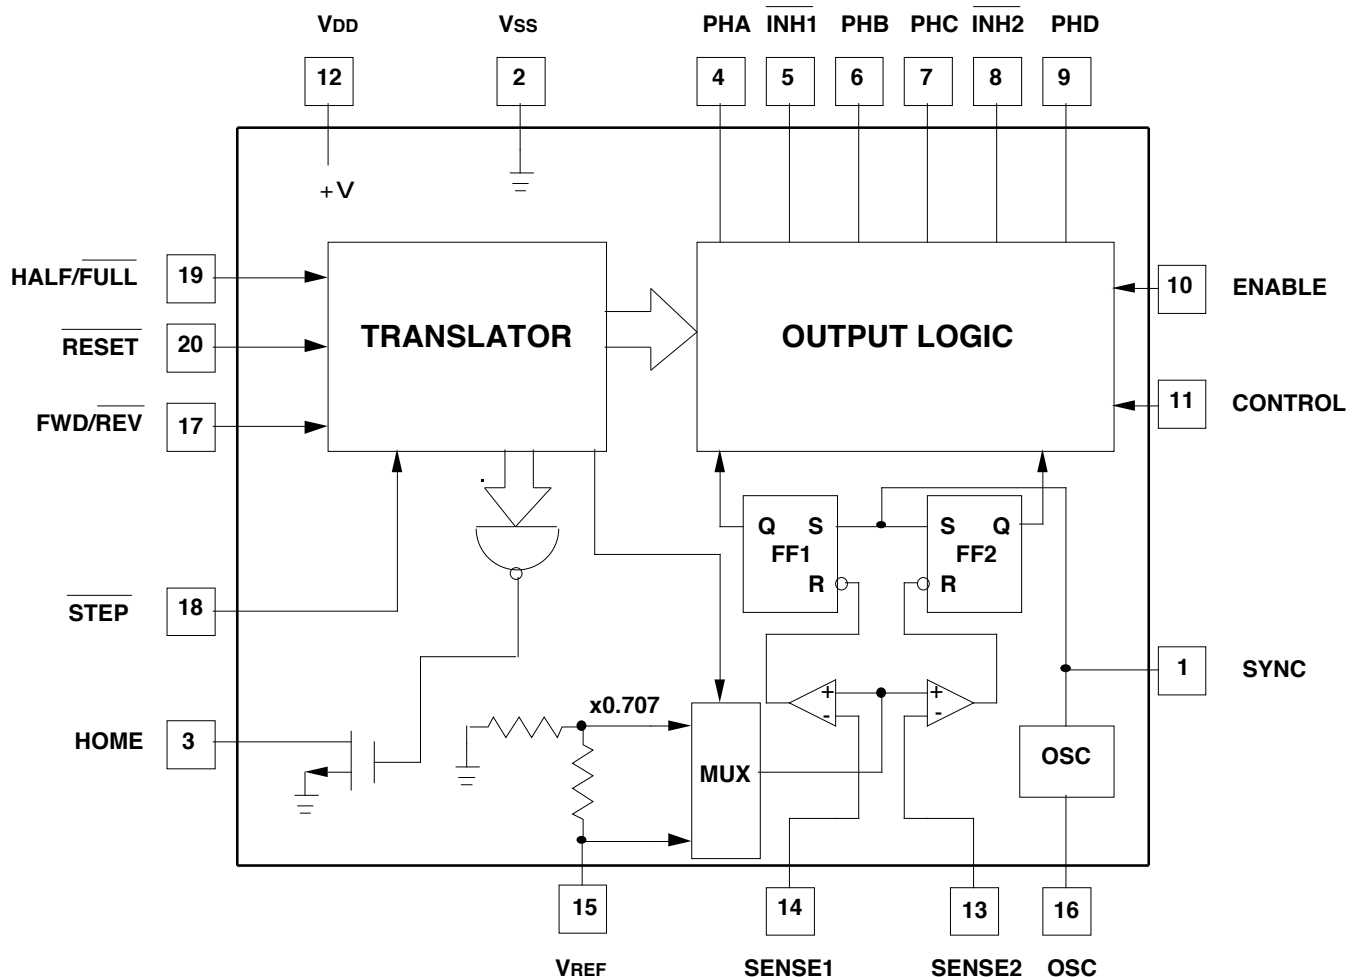

FIGURE 2. LS8297/LS8297CT BLOCK DIAGRAM
**ELECTRICAL CHARACTERISTICS:** (Refer to Block Diagram, Figure 2, and Timing Diagram, Figure 3)